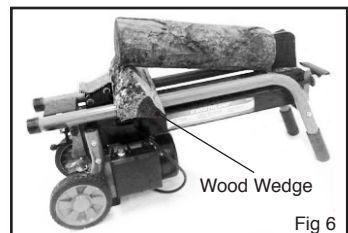

Fig 6
2. After the ram completely retracts, insert a wood wedge under the jammed log. (Fig 6)